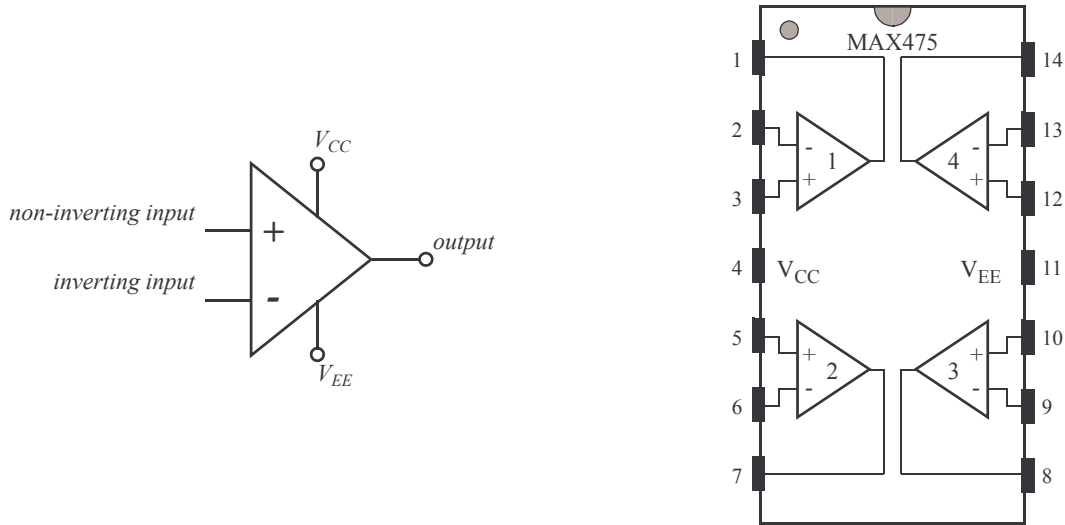

Figure 0.3 - Symbol for an op-amp (left) and a Maxim MAX475CPD quad op-amp IC
2. Pin numbers are associated with the *MAX475* op-amp chip in *Figure 0.3*. Since there are four op-amps per package with distinct pin numbers for each, op-amp #1 with associated pin numbers (1, 2, and 3) was the device used in the example circuit.
amps as shown in Figure 0.3. The supply voltages for the *MAX475* are considered safe when in the range of $V_{CC} - V_{EE} < 7.0\text{V}$. The *MAX475* op-amp has rail-to-rail output characteristics, which means that the output saturates at approximately V_{CC} . With the circuitry used in the *Embedded Control* lab, V_{CC} will be set to 5.0V, V_{EE} will be ground, and the output will saturate at 5.0V.